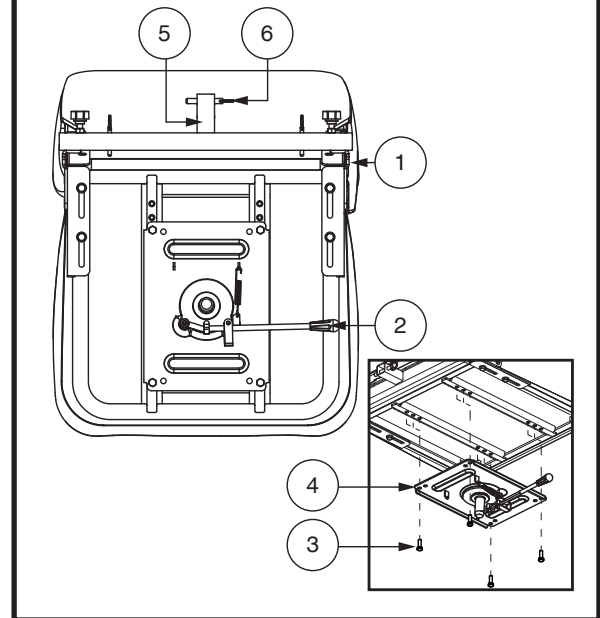

Figure 15. Seat Adjustments
1. Depending on your seat type, either pull upward or push forward on the seat rotation lever to disengage the seat. See **figure 15**.
If your scooter is equipped with a reclining seatback, you can adjust the seatback angle with the seatback adjustment lever. See **figure 15**.
3. Loosen the four (4) bolts located on bottom of seat, leaving seat plate in place. See **figure 15**.
6. Insert and tighten four (4) bolts to attach seat.
The rear-mounted accessory bracket allows you to attach a personal accessory such as a basket, walker holder, or oxygen tank to the back of your scooter. Use the detent pin to securely mount your item to the accessory bracket. See figure 15. See your authorized provider for details.